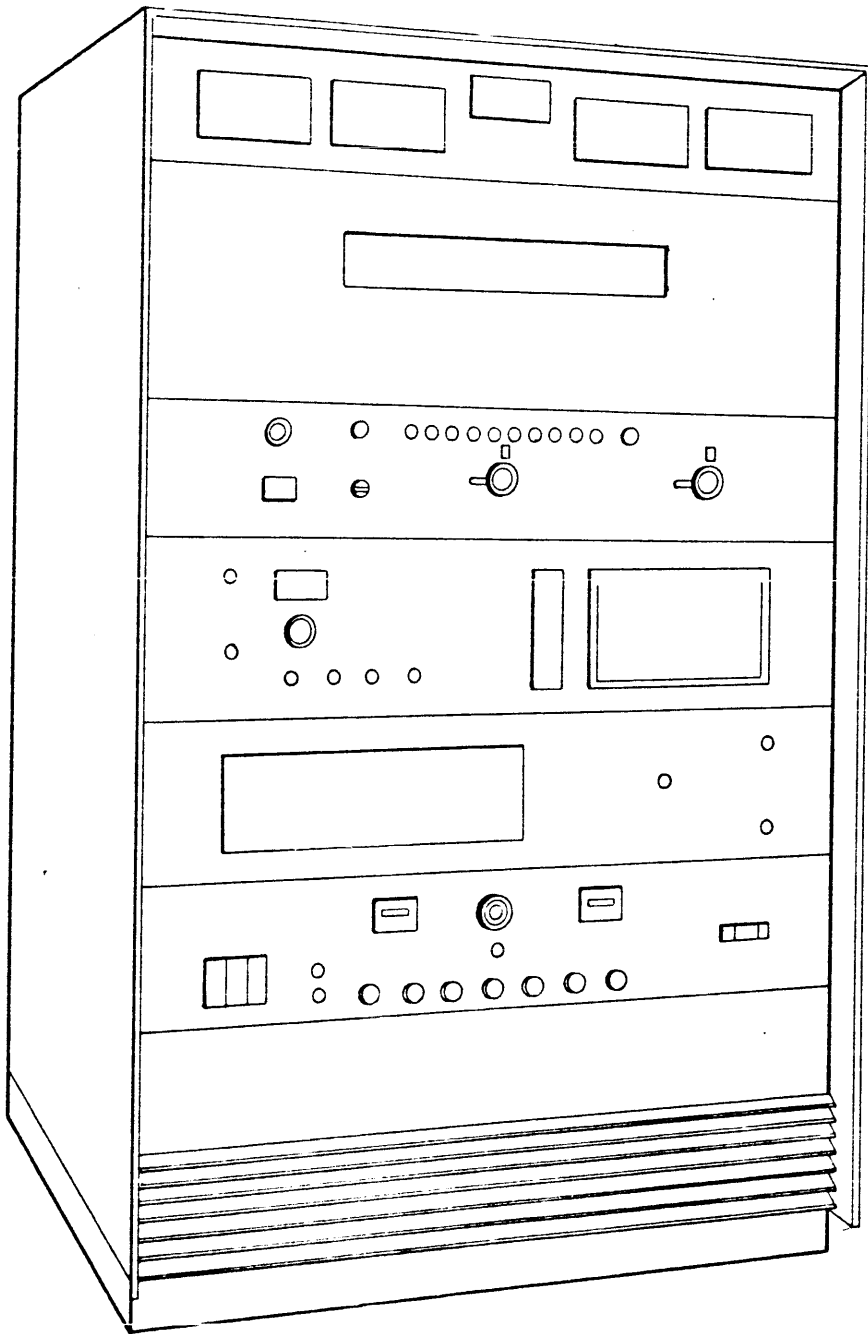

Figure 1-1. HFLM-10K (Rev B) High Frequency Linear Amplifier
a. GENERAL. As shown in figure 1-1, the unit consists of a single frame, housing all the components of the transmitter. Primary power connections are made through the access hole on the base assembly. External exciter transmitter control connections are made to the exciter remote assembly. Transmitter r-f power is routed through a directional coupler mounted in the opening located on the top of the transmitter. The transmitter